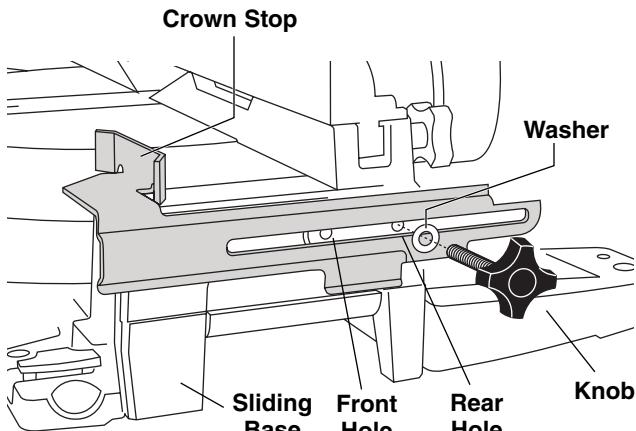

Figure 1: Crown Stop
2. Hold one flip up crown molding/length stop to the side of the sliding base and mount by screwing one knob with washer through the slot of the stop and into the rear mounting hole as shown in figure 1.